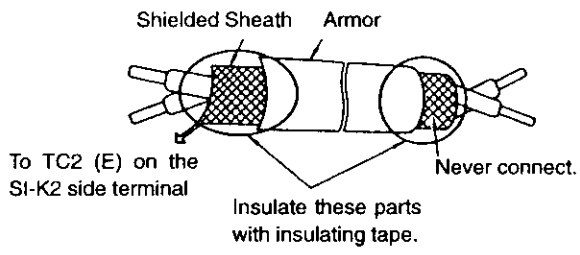

Fig. 4 Shielded wire termination
- Use a shielded wire to connect for transmission. Connect the wire as shown in Fig. 4 to prevent interference by noise.